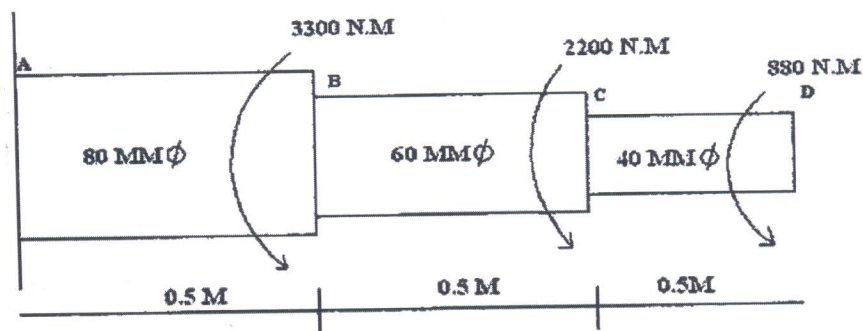

Fig. 8
- (b) A stepped shaft is subjected to couple in same direction at the changes in section and the free end is shown in Fig. The length of each section is 0.5 m and the diameter are 80 mm, 60 mm and 40 mm. If $G = 80 \text{ GPa}$, find the angle of twist θ in degree at the free end. (Fig. 8) [8]